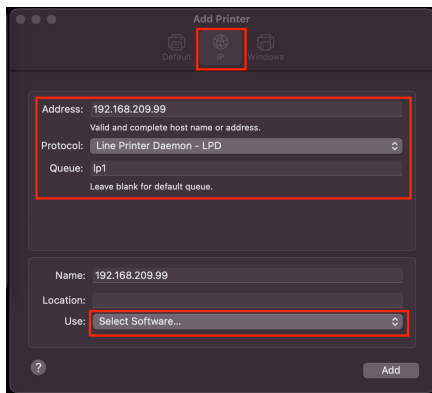

Figure 35
3. Select the **IP** option at the top and use the following information. Once all settings are entered, click **Add** (Figure 35)